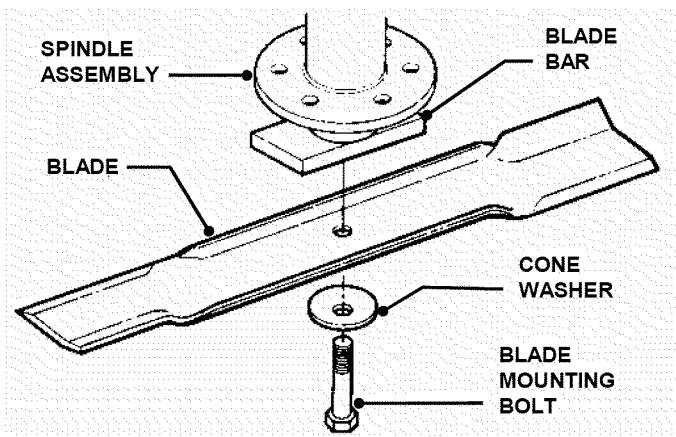

FIGURE 4.17
5. Remove blade mounting bolts and cone washers. See Figure 4.17.